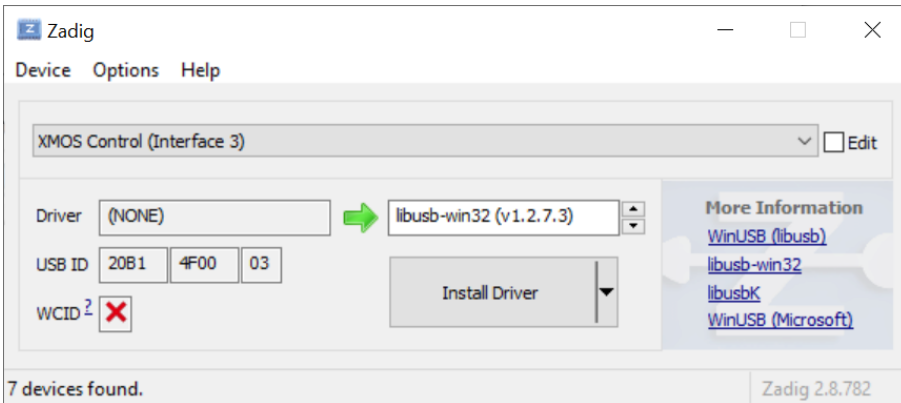

Fig. 3: Selecting the *libusb-win32* driver in Zadig for the Control Interface
2. Select *libusb-win32* from the list of drivers in the right hand spin box as shown in Fig. 3.